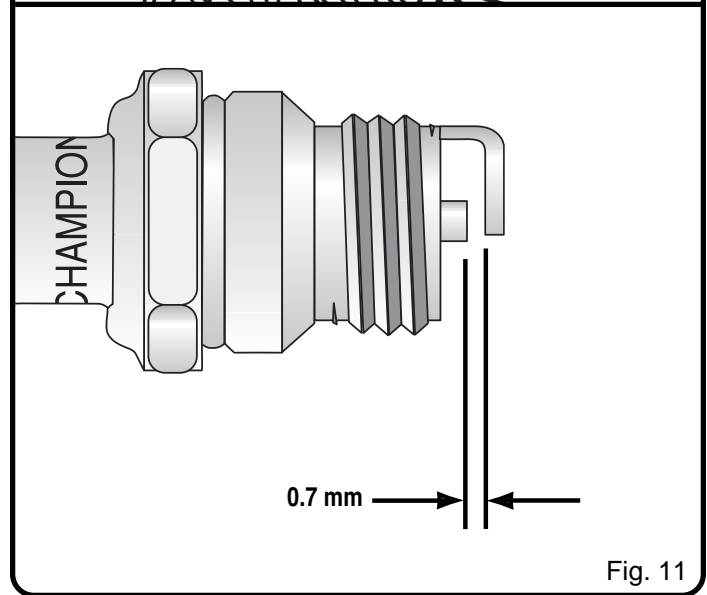

Fig. 11
See Figure 11.
3. Replace cracked, fouled, or dirty spark. Set the air gap at 0.7 mm using a feeler gage. See Figure 11.